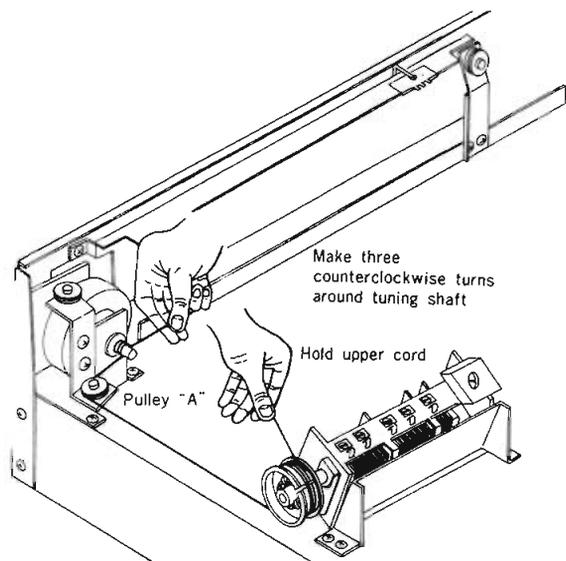

Fig. 2-11 Wrapping dial cord around tuning shaft
8. While holding the upper cord, run the lower cord over pulley "A" and make three counterclockwise turns around the tuning shaft as shown in Fig. 2-11.